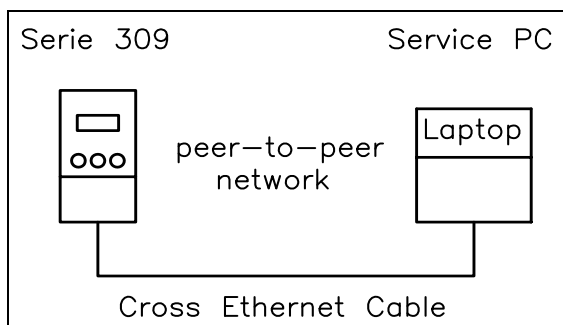

Fig. 25: Correct connection with cross-over-cable. E309002e
*Fig. 25 and 26 show the peer-to-peer connection between PC und BKS309.EIP. Please be aware that for this configuration a cross-over-cable needs to be used.*